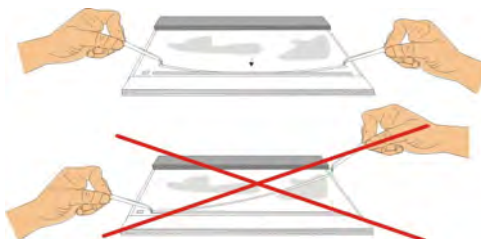

Fig. 6
10. Place the IPG strip gel-side down (!), anodal side to the right, into the slot of the SDSGel (fig. 6). Start in the middle, this prevents accumulation of buffer towards one side. Push it carefully towards the anode edge of the slot. Slide along the backing of the strip with the forceps to ensure good contact to the bottom of the slot.